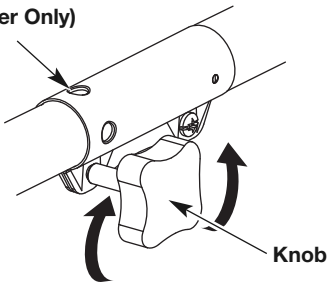
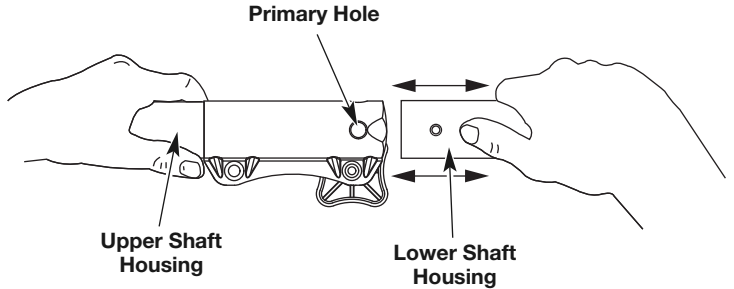

Fig. 3
Fig. 5
1. Turn the knob counterclockwise to loosen (Fig. 3).
2. While firmly holding the attachment, push it straight into the coupler until the release button snaps firmly into the primary hole (Fig. 5).
3. Turn the knob clockwise to tighten (Fig. 3).
NOTE: Aligning the release button with the guide recess will help installation (Fig. 5).
CAUTION: Before operating the unit, make sure the release button is fully snapped into the primary hole (Fig. 5) and the knob (Fig. 3) is securely tightened.
3. While firmly holding the upper shaft housing, pull the attachment straight out of the coupler (Fig. 5).